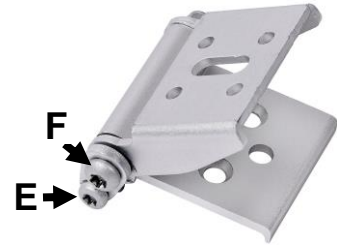

Figure 2. Adjustable Bracket locking screw
3. See Figure 2. Tighten the Torx 20 locking screw **E** on both brackets to lock the brackets in position and hold the fixture securely at the desired angle. Check that the fixture is held safely and securely.